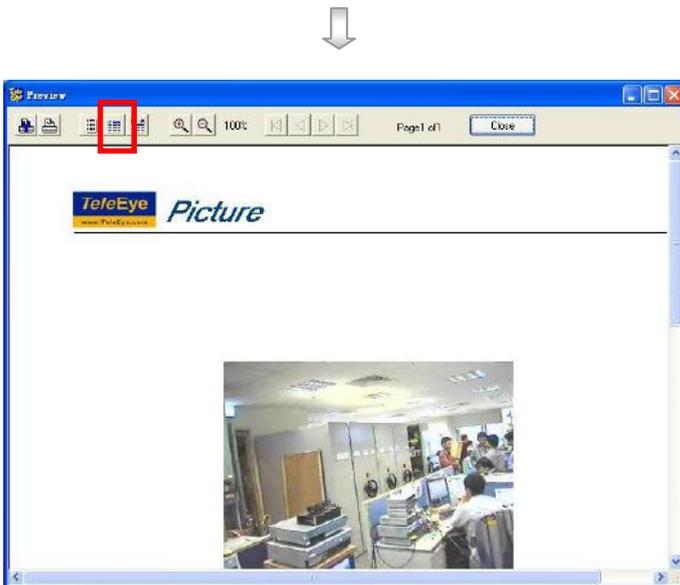

Fig 11.2e
Step 3: Click [100%]  icon to preview the picture in 100% A4 paper size as shown in Fig 11.2e.